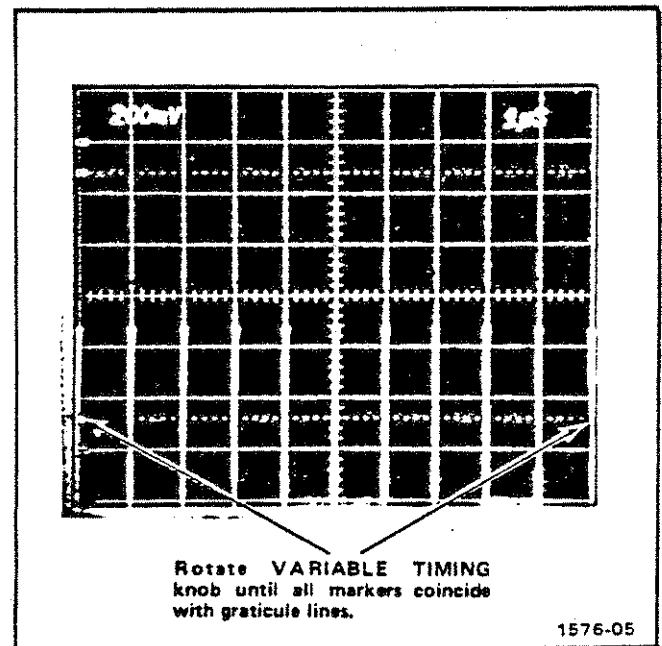

Fig. 2-4. Measuring timing error of time base.
8. Rotate the VARIABLE TIMING knob until all time markers coincide with graticule lines on the oscilloscope, as shown in Fig. 2-4.